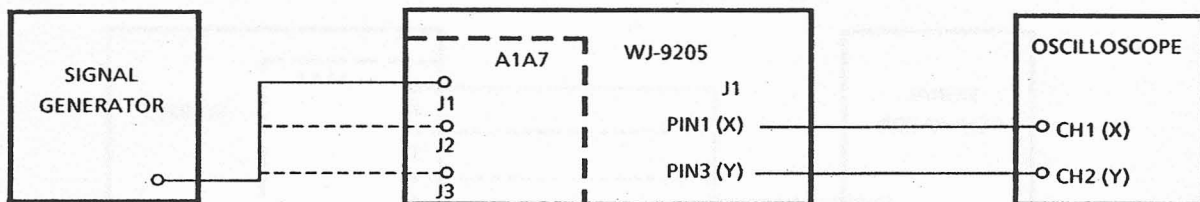

Figure 4-3. LOG/IF Detector Performance Test, Equipment Connections
2. Connect the equipment as illustrated by the solid lines in Figure 4-3. Set the oscilloscope inputs for 0.1 volts/division and for X-Y operation.